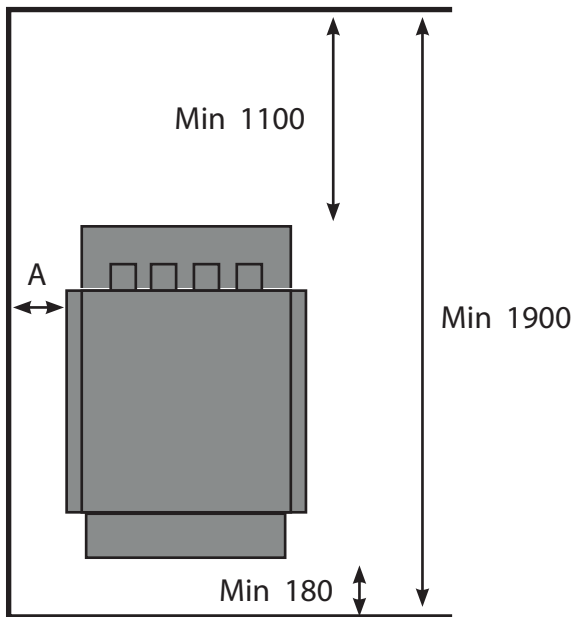

Fig. 3c
- iv. The minimum height of your sauna room must be 1900mm, please refer fig 3c